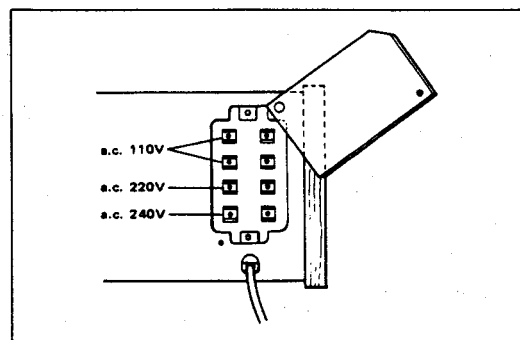

Figure 3
MAIN VOLTAGE SELECTION (Refer to Figure 3)
2. Loosen a screw and slide the cover as illustrated in Figure 3.